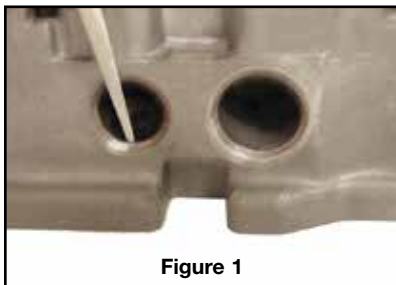

Figure 1
- Inspect the bore entry surface for a ridge just inboard of the end or chamfer. The ridge is difficult to see with the naked eye but can be felt by carefully dragging a sharp pick out the bore and down the chamfer (**Figure 1**).